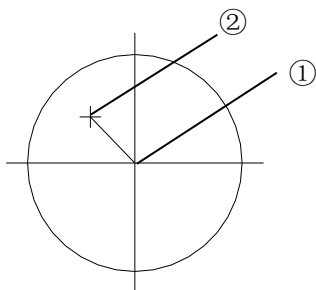

Figure 26
**3-22 Adjusting the objective light axis and stage center coincide (Figure 26, 27)**